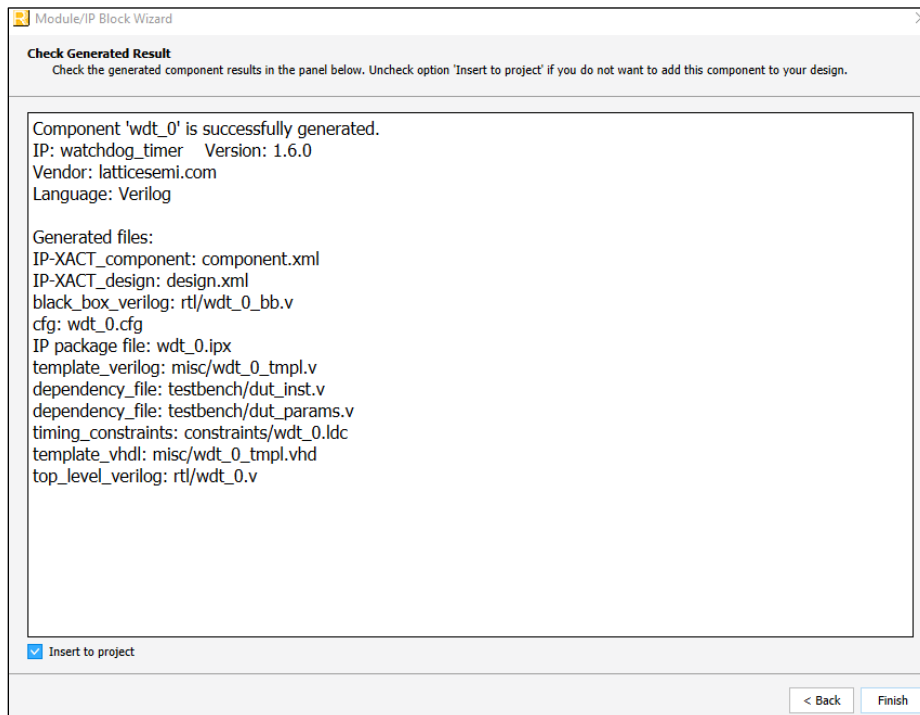

Figure 7.3. Check Generated Result
4. Click **Generate**. The **Check Generated Result** dialog box opens, showing design block messages and results as shown in Figure 7.3.